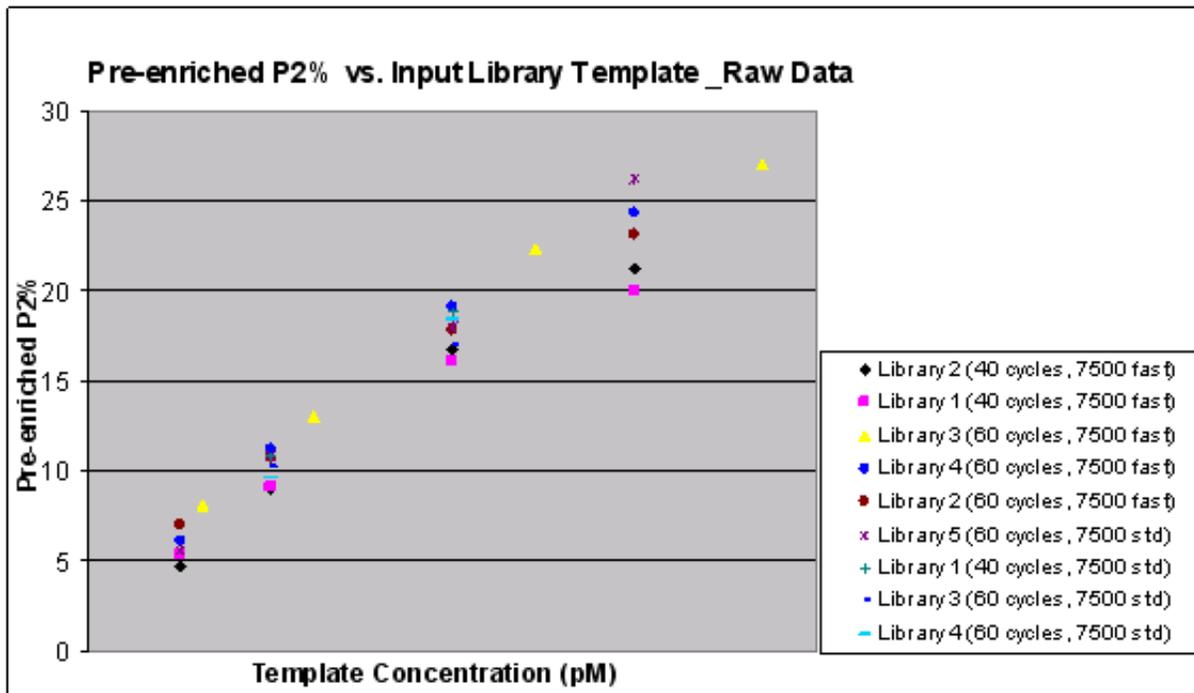

Figure 37 Plot of pre-enriched P2% against corresponding input DNA concentration.
2. After obtaining the stock concentrations by qPCR, all libraries were subjected to ePCR titration assays. In order to compare between the libraries, all concentrations were calculated in molar (pM) instead of mass (pg/ μ L). Two ePCR cycling conditions were employed: 40 cycles and 60 cycles. Amplified beads were recovered by standard ePCR process and pre-enriched $P2\%$ (coated beads/total beads) was measured by P2-Cy3 hybridization (see Table 22 on page 89, Table 23 on page 89, and Figure 37 on page 90).
- Two equations (I and II below) were generated by fitting the curves in Figure 37 to describe the relationship between pre-enriched P2% and the amount of input template after 40 cycles or 60 cycles of ePCR reactions: